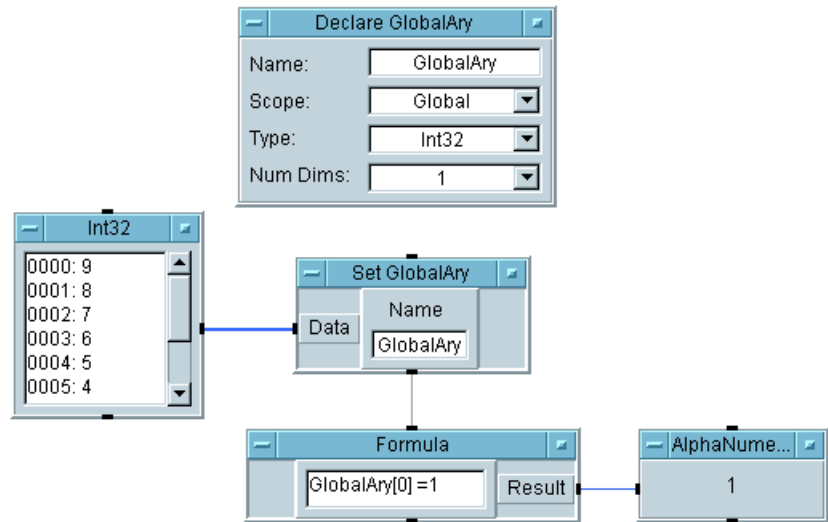

**Figure 9-3. Initializing a Declared Global Variable**
**Very Important!** When you declare a global array or record variable using the `Declare Variable` object, the entire variable must be initialized collectively before you can change part of the global. The program in Figure 9-3 shows the variable `GlobalAry` declared and initialized before an individual part is changed by the assignment in `Formula`.